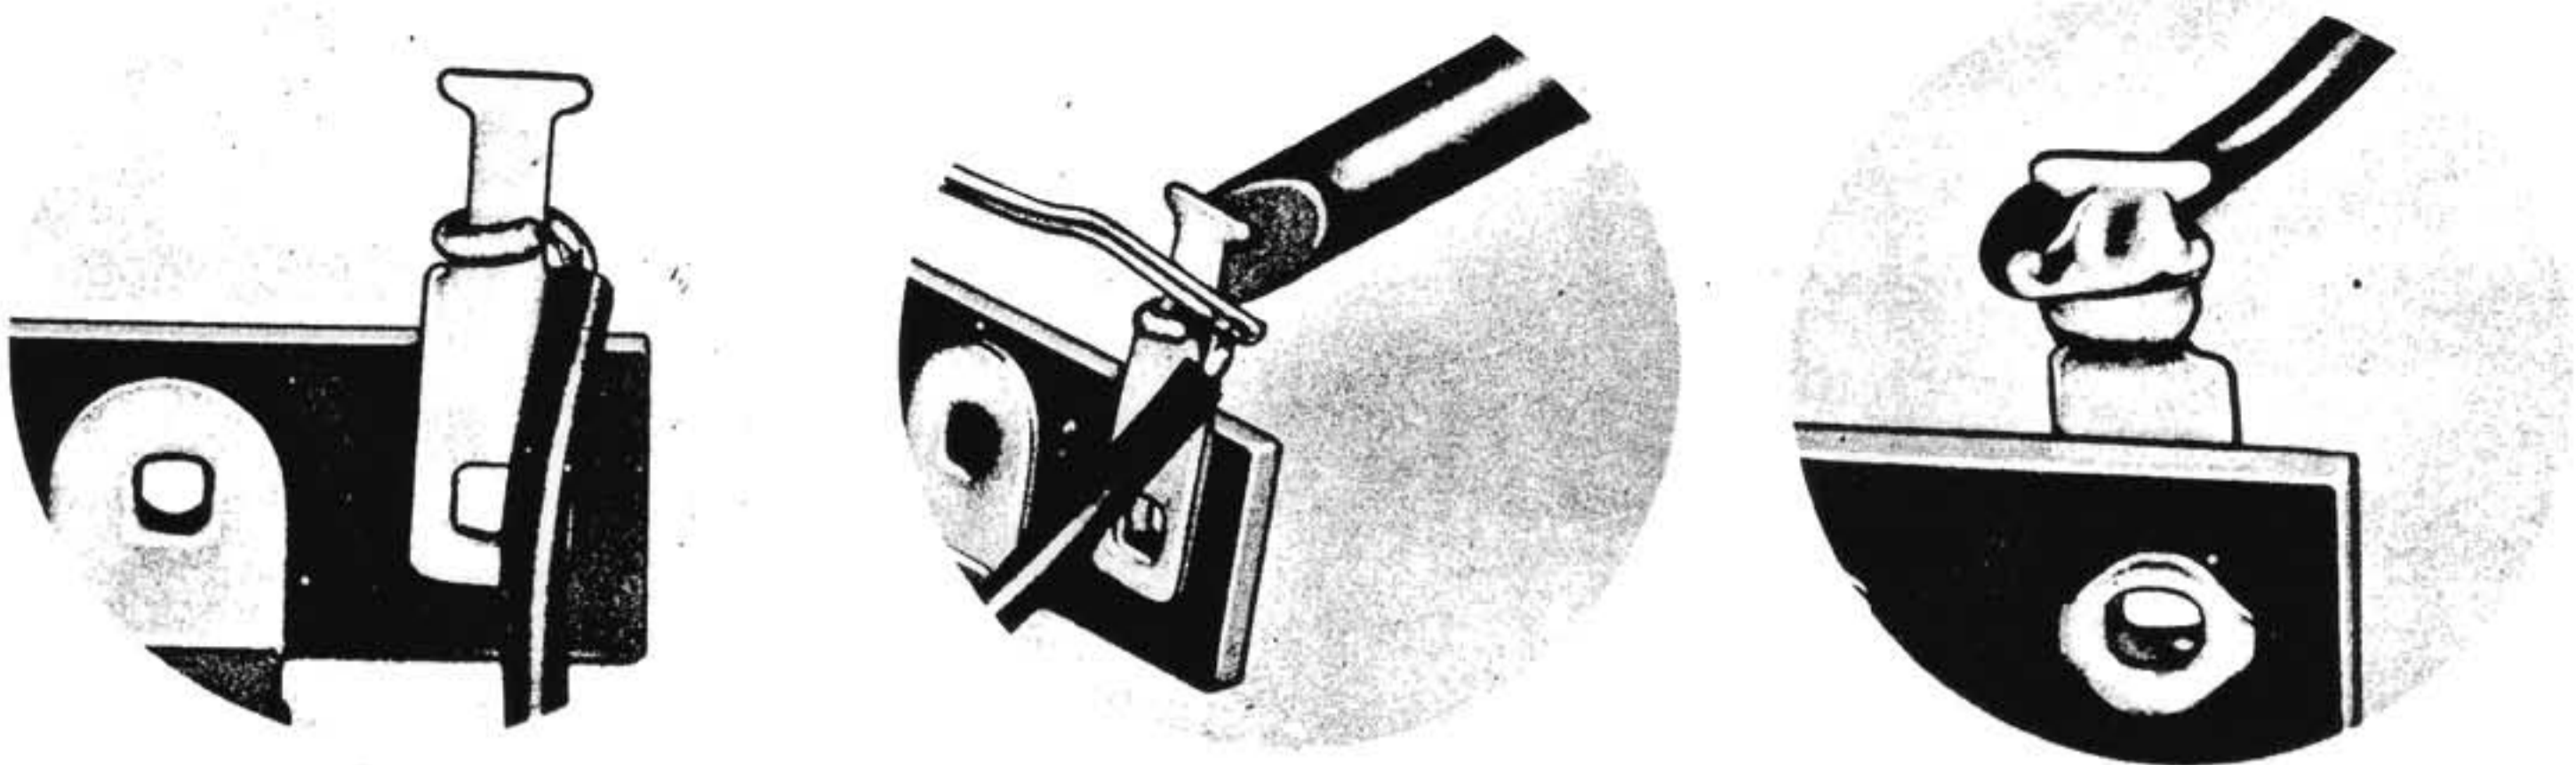

FIGURE 1
3. The leads should be mechanically secure before soldering. This does not mean wrapping leads around the contacts several times. It means a single turn around the contact which is then pinched tightly with the long nose pliers. If the wire is too large for bending, position the wire so that a good solder connection can still be made. (See Fig. 1.)